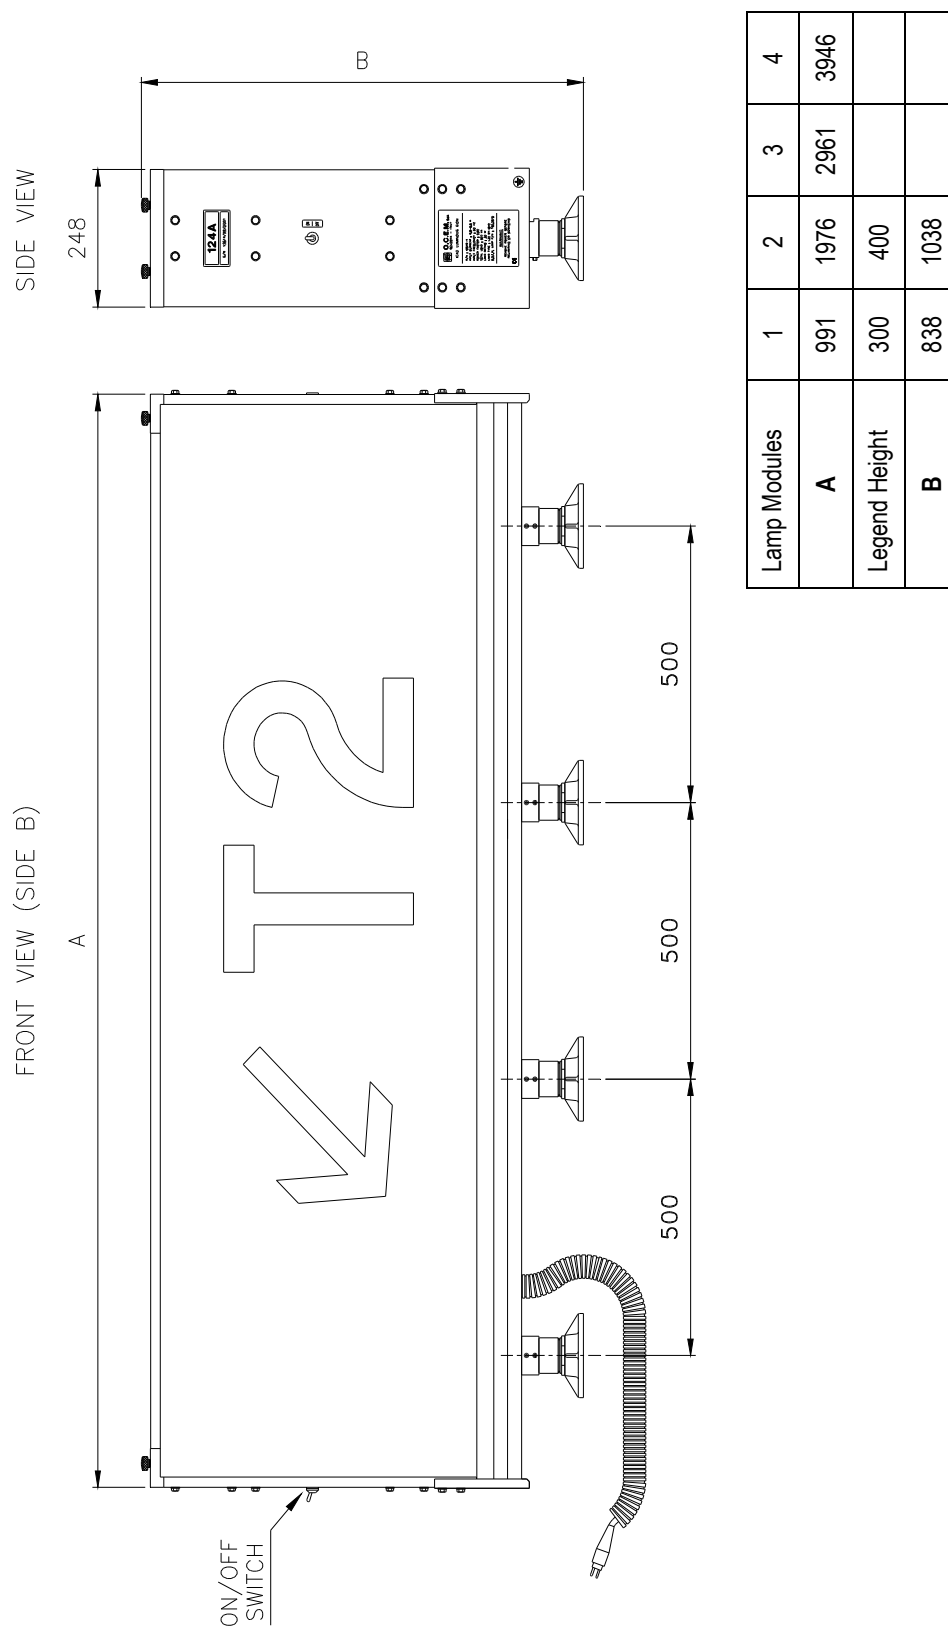

Figure 1 - HIGS Luminous Signs - Overall Dimensions
| Figure 1 - HIGS Luminous Signs - Overall Dimensions | 11 |
The signs practically include the following sections (*Figure 1*):
- a) Take as reference *Figure 1* for spacing between breakable couplings.